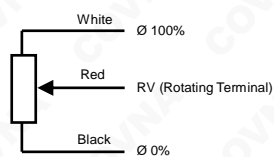

Figure 11
■ Potentiometer installation and connection (Figure 11)